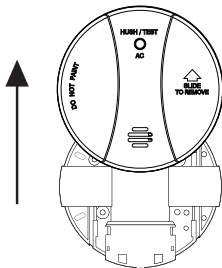

Figure 2: To remove smoke alarm
- Separate Smoke Alarm from mounting base by sliding cover (See Fig. 2).
2. Push smoke alarm towards connector (A). Ensure the smoke alarm slides fully into the connector.
- To re-install smoke alarm follow FIGURE 2 procedure 1 to 3. See page 11.